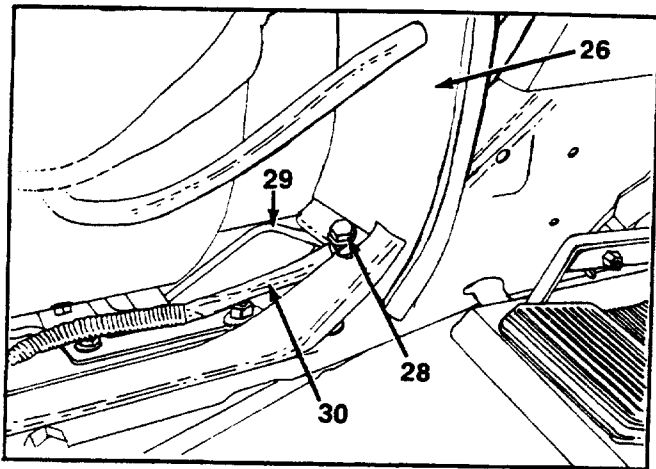

FIGURE 16.
17. Remove hex bolt, flat washer, star washer, ground wire and wire harness from heat shield located on the left hand side of chassis. See figure 16.